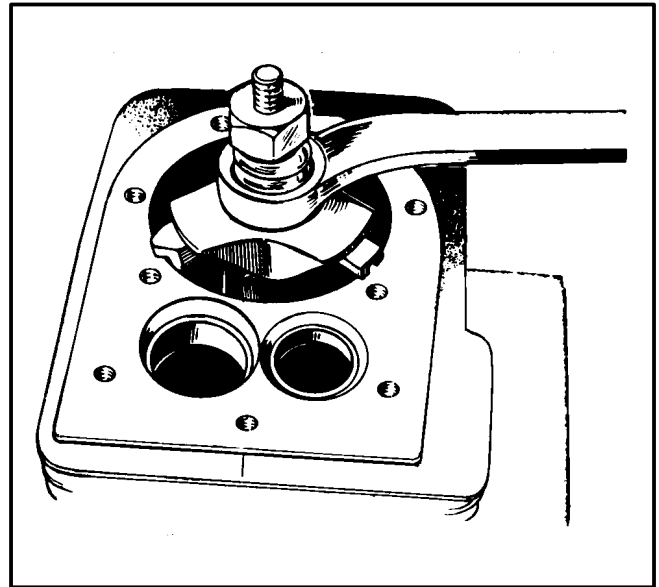

FIGURE 10-14. REMOVING RIDGE FROM CYLINDER
3. Remove the ridge from the top of each cylinder with a ridge reamer before attempting piston removal (see Figure 10-14).